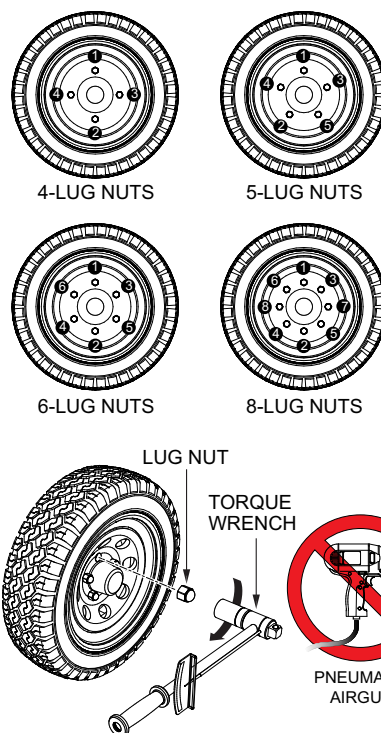

Figure 49. Wheel Lug Nuts Tightening Sequence
2. Torque (tighten) all lug nuts in sequence (Figure 49). **DO NOT** torque the wheel lug nuts all the way down. Torque each lug nut in **3 separate passes** as defined in Table 12.